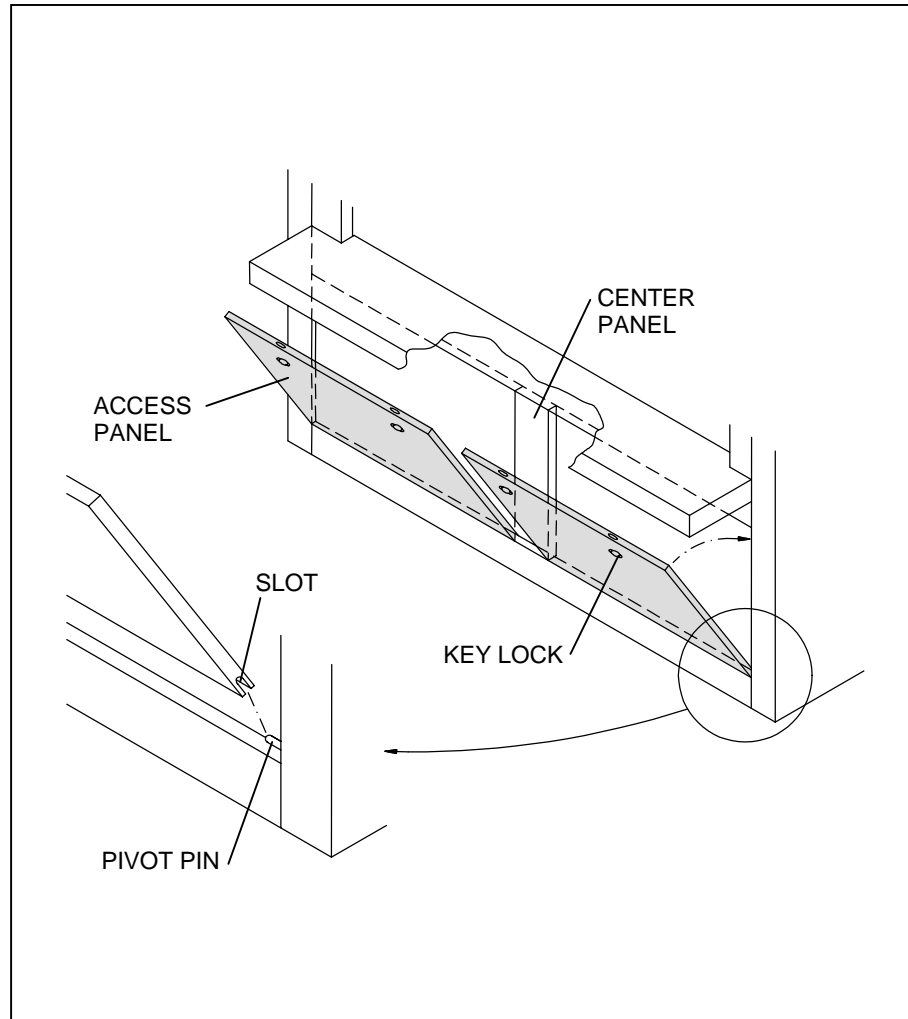

Figure 31. ACCESS PANEL INSTALLATION (130-INCH WIDE PANS)
4. **For carousels equipped with 130-inch wide pans:** Install the center panel in the access opening using four 10-32 screws, washers and elastic stop nuts. Repeat steps 1 through 3 for each of the removable panels (see Figure 31).